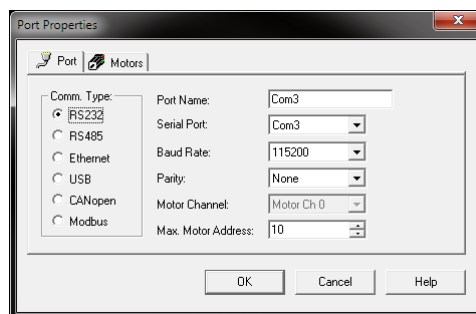

Figure 5: SMI Port Properties
- 5) In the **Configuration** window, right-click on the serial port you connected the SkyScan to (with the NULL modem serial cable) and select **Properties**. The dialog shown in Figure 5 will be displayed.